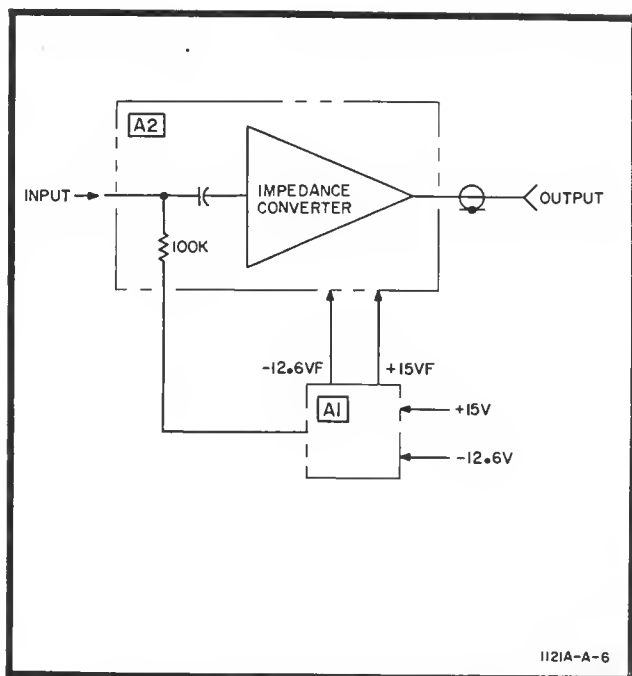

Figure 4. Model 1121A Block Diagram
17. Figure 4 is a functional block diagram of the Model 1121A. The input capacitor, impedance converter and 100 kilohm resistor are located in the probe tip micro-circuit. The impedance converter is a current amplifier with unity voltage gain. Output impedance of the converter matches a 50-ohm transmission line, which results in a current gain of approximately 4000 at low frequencies. The transmission line connects the output of the impedance converter to the output connector. Unity gain is maintained when the signal is terminated in a 50-ohm load with a low-frequency roll-off at approximately 1 kHz. Low frequency response depends upon the amount of coupling capacitance to the external load.